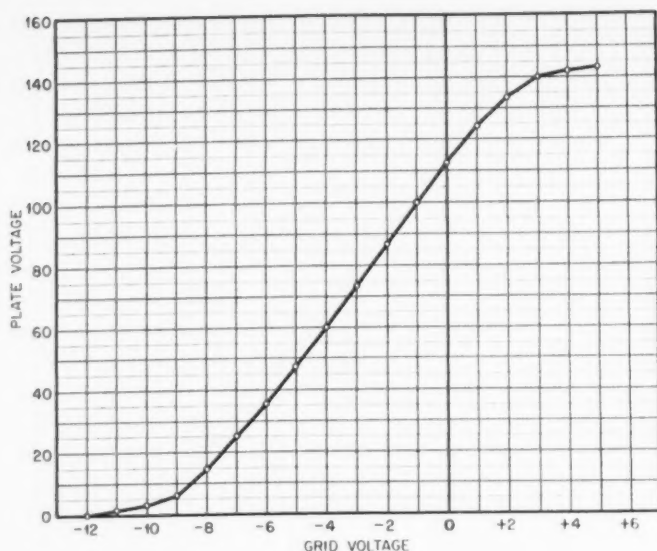

Fig. 5. Grid voltage-plate voltage curve of tuned grid circuit bias detector, as measured across plate load resistor, and used for AM noise-level measurements.
For these measurements a simple 6L5 bias detector with a tuned grid circuit was assembled, and the grid voltage-plate voltage curve plotted (as measured across the plate load resistor). This curve is shown in Fig. 5. The RCA 40-C amplifier was used in
Sufficient r-f voltage from the radiator of the transmitter was picked up by the resonant grid circuit of the detector to give a d-c drop of 10 volts across the plate load resistor. A measured gain of 25 db was needed in the 40-C amplifier behind the detector to produce an output level of zero. From the curve in Fig. 5 we find that a grid voltage of 3.5 is indicated when 10 volts is developed across the plate load resistor. Multiplying the grid voltage by 2 to simulate 100-percent (AM) modulation conditions of the carrier, the resulting 7 volts on the grid shows a corresponding plate voltage of 48, again taken from the curve. This corresponds to a level of approximately 34 db. The 25-db gain of the 40-C amplifier plus the 34-db level measured across the plate load resistor equals 59 db, which is the level of the AM noise below 100-percent conditions.